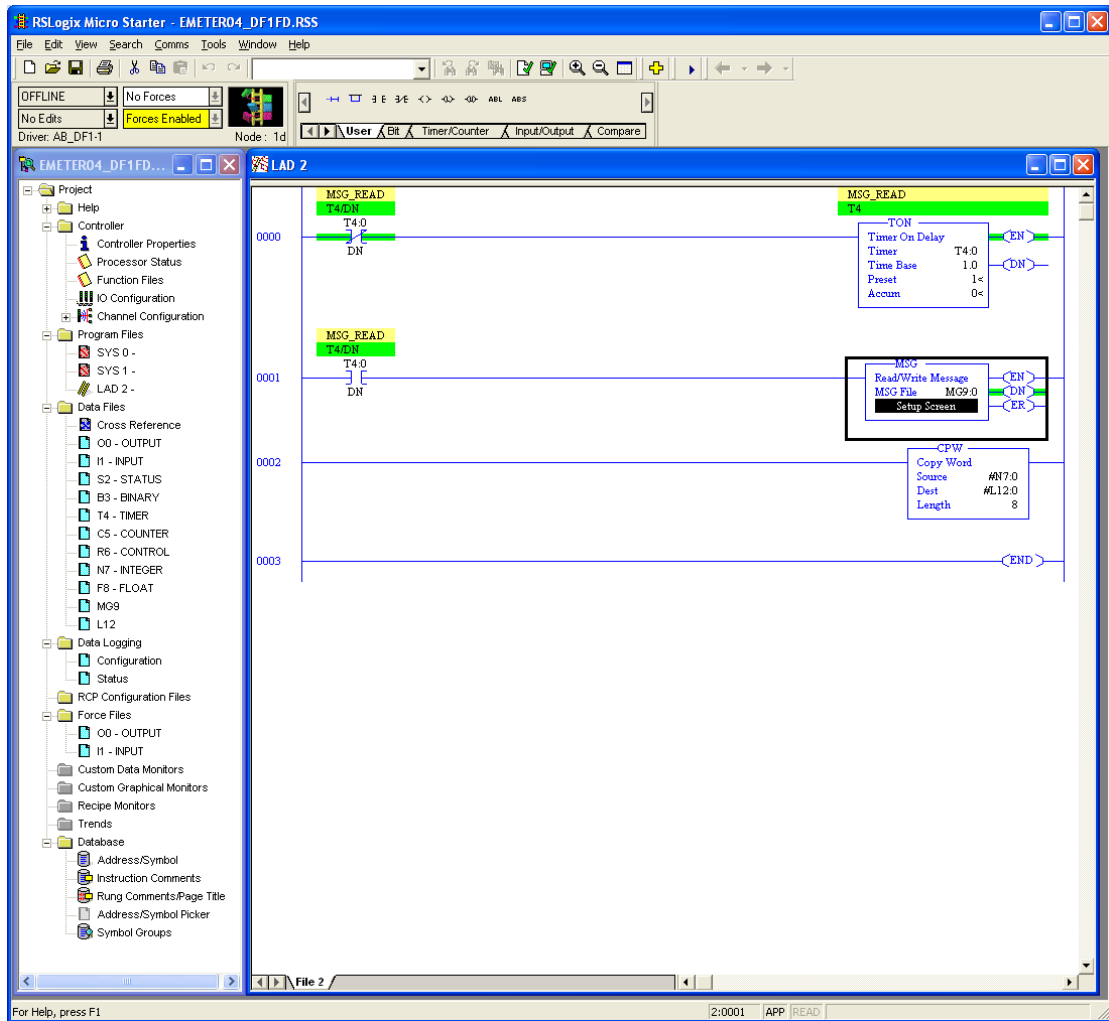

Figure 3. RsLogix Programming Environment.
Within a MicroLogix (or other Allen Bradley) PLC, communication setup is performed within the RsLogix Programming Environment. Figure 3 displays a screen snapshot of a simple ladder logic program that is designed to poll the two (2) totalization and two (2) flow-rate registers of an EtherMeter, deposit the data into the N7:xx integer (16-bit) registers, and then copy the data into the L12:xx long integer (32-bit) registers: